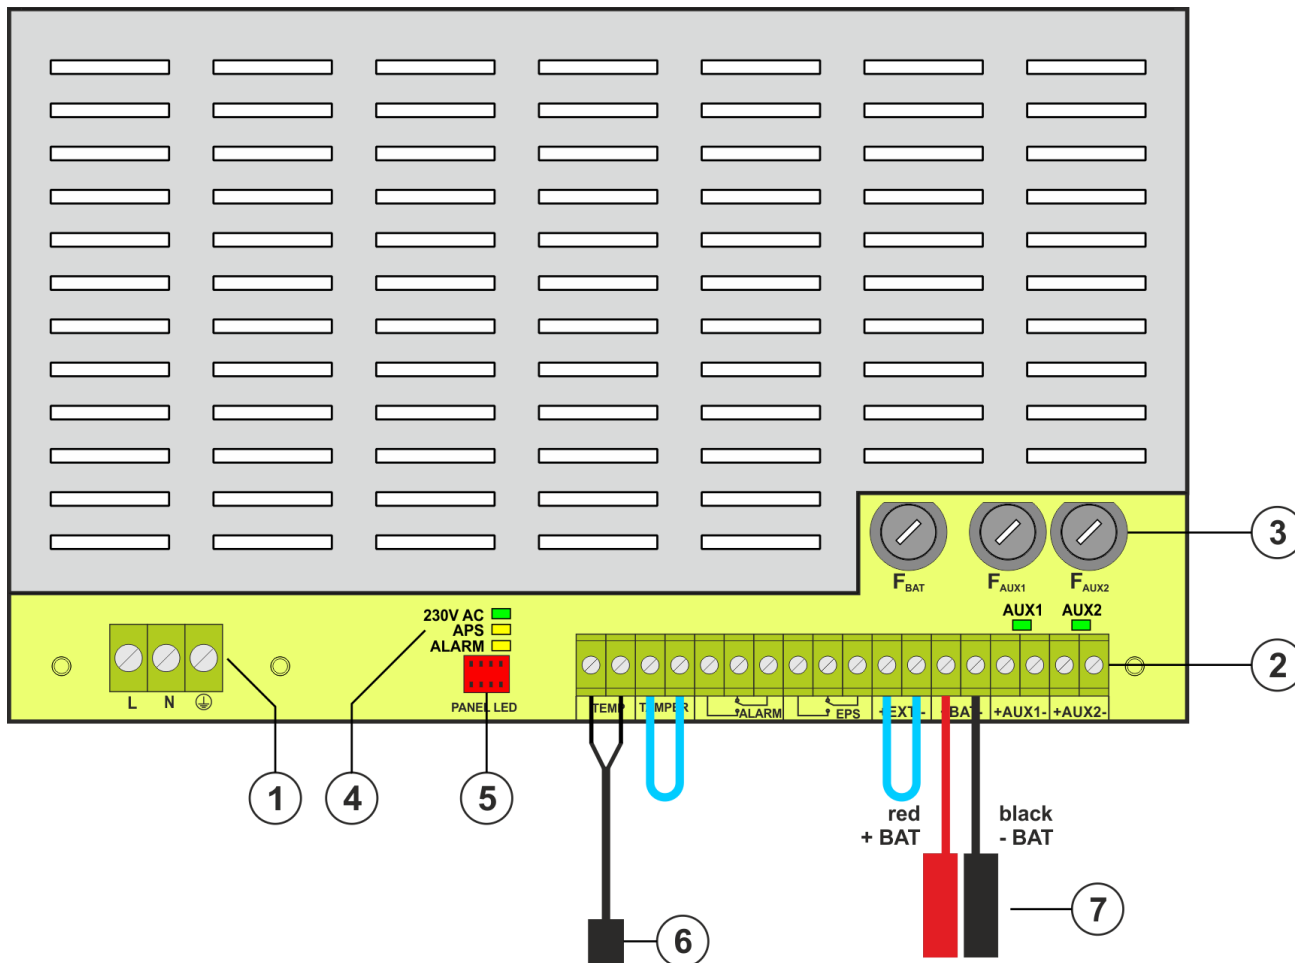

Fig. 2. The view of the power supply module based on the EN54C-2A7.
Table 1. Elements of the PSU (Fig. 2).
2	<p>Terminals:</p> <p>TEMP – input of the battery temperature sensor</p> <p>TAMPER – input of the microswitch tamper                      Closed input = no indication                      Open input = alarm</p> <p>ALARM – technical output of collective failure of the PSU - relay type</p> <p>EPS – technical output of AC power failure indication                      open = AC power failure                      closed = AC power - O.K.</p> <p>EXTi – external failure input                      Closed input = no indication                      Open input = alarm</p> <p>+BAT- – terminals for connecting the battery</p> <p>+AUX1- – AUX1 power output ( - AUX=GND)</p> <p>+AUX2- – AUX2 power output ( - AUX=GND)</p> <p>CAUTION! In Fig.2 the set of contacts shows a potential-free status of the relay, which corresponds to power supply failure.</p>
①	PSU (tab. 1, Fig. 2)
②	Battery temperature sensor
③	Battery connectors; positive: +BAT = red, negative: - BAT = black
④	Place to install the EN54C-LB4 or EN54C-LB8 fuse module
⑤	TAMPER; microswitch (contacts) of antisabotage protection (NC)
⑥	Fitting battery
⑦	Embossing for cable gland
⑧	Embossings for concealed wires
⑨	Lock
**CAUTION!** In Fig.2 the set of contacts shows a potential-free status of the relay, which corresponds to power supply failure.